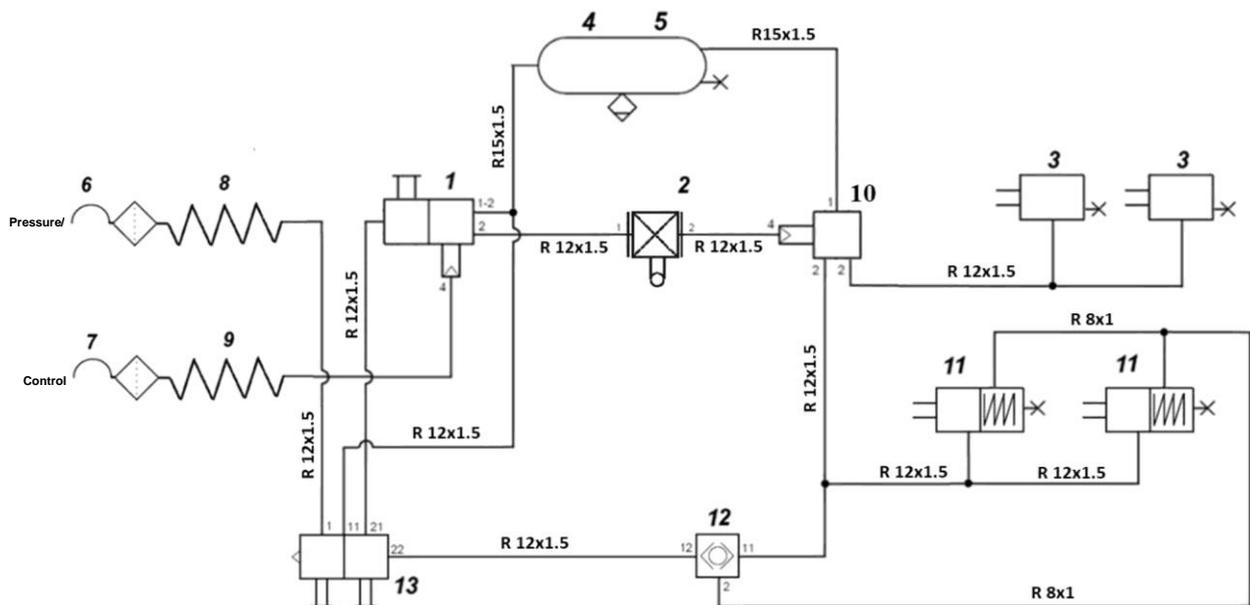

Figure 12. 2-line pneumatic braking system with ALB
The spreader is equipped with a 2-circuit pneumatic brake with ALB (with automatic brake force control) – Figure 12. The brake is activated from the driver's seat by pressing the brake pedal of the tractor. The pneumatic control valve (1) enables the spreader's brakes to operate simultaneously with the tractor's brakes. In the event of an accidental disconnection of the hoses (8) and (9) the control valve will automatically activate the brakes of the machine. The ALB system features a valve (2) which automatically and continuously adjusts the braking force on the spreader wheels according to the load level of the body.